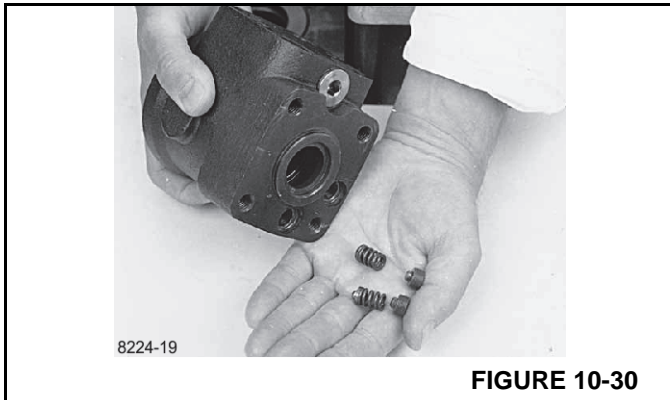

FIGURE 10-31
20. Remove the plug using an 8 mm Allen wrench. Remove seal washers (Figure 10-31).